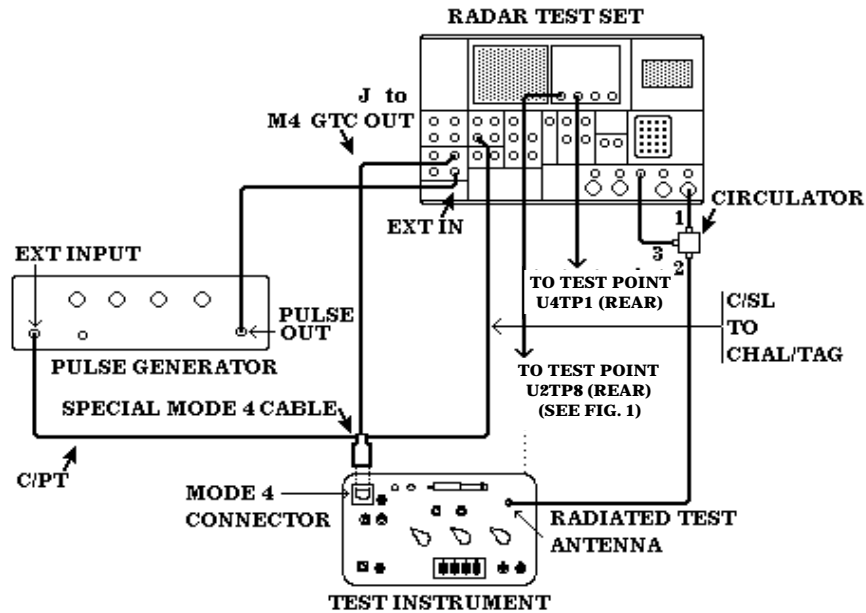
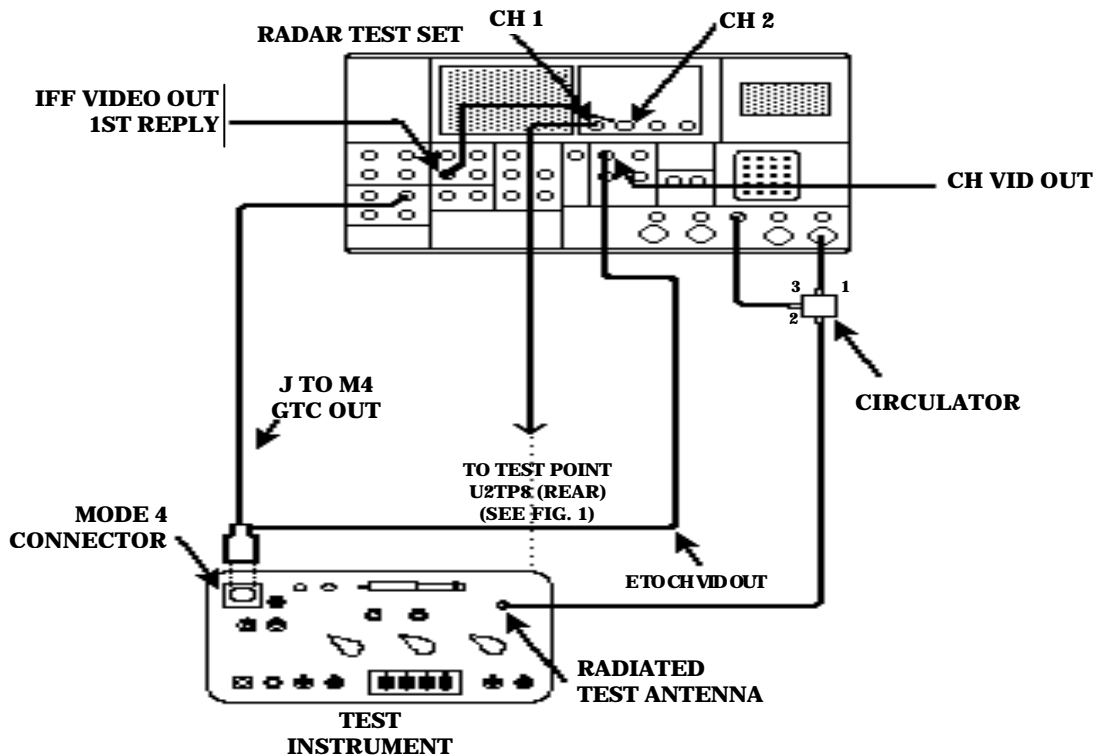

Figure 9. MODE 4 SLS pulse setup.
Figure 10. MODE 4 system accept/reject setup.
- (1) Connect equipment as shown in figure 9.
- (2) Set oscilloscope to display pulses on **CH1** and **CH2** inputs.
- (3) Measure pulse width of first pulse on **CH1**. Pulse width will be between 0.3 and 0.6 μ s.
- (4) Position base lines of **CH1** and **CH2** on top of each other. **CH1** pulse will fit inside **CH2** pulse when both channels are coincident.
- (1) Connect equipment as shown in figure 10.
- (2) Connect radar test set oscilloscope CH2 to IFF VIDEO OUT 1ST REPLY (fig. 10) on radar test set.
- (3) Disconnect C/SL cable from CHAL/TAG (fig. 9), and connect E cable to CH VID OUT (fig. 10) on radar test set.
- (4) Adjust radar test set **MAIN OUTPUT LEVEL** control to **0 dBm** and increase **2ND REPLY** delay (menu 4) to approximately 5 μ s. Observe that TI **ACCEPT** light is on.